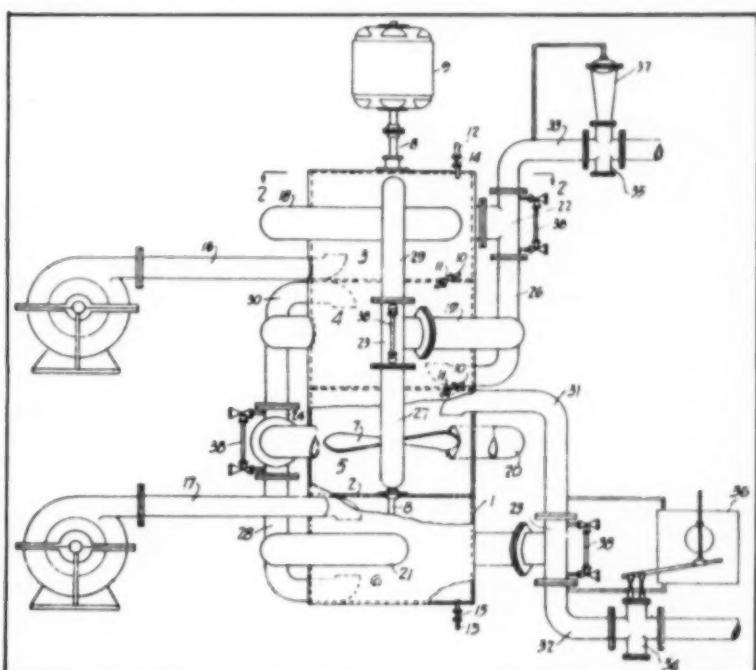

Fig. 1.
The apparatus in Figure 1 is a vertical mixer-settler with a common shaft for all stirring paddles (7). In each stage the liquids flow cocurrently to the settling chamber. The mixing paddles are mounted on a vertical shaft (8) extending the height of the column through the horizontal partitions (2), the partitions being provided with suitable packed bearings around shaft (8) to prevent the flow of fluid between mixing stages. Each adjacent pair of chambers is connected by a small valve (11), which is used for venting
fixed to the common shaft before the next mixing chamber is bolted into place. After the mixing chambers are assembled, the settling chambers may be attached externally as piping connected to a T leading to the next higher and next lower mixing chambers, as shown in Figure 1.